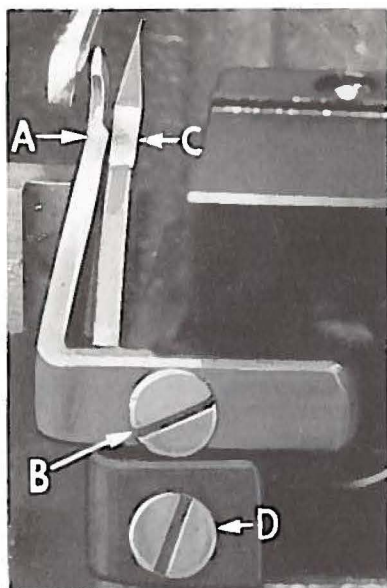

Fig. 6
Set rear needle guard as high as possible (A, Fig. 6) without interfering with either lower spreader or movement of lower knife holder, but still in position to deflect needle forward .002 to .004 inch. Screw (B) is used to set the rear needle guard. Make sure there is no interference between the rear needle guard and lower spreader.
Assemble front needle guard (C, Fig. 6). When lower spreader is springing needle off back